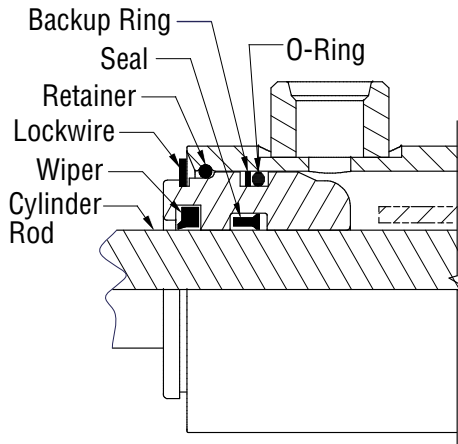

Figure 6-10, Gland Cap Seal
3. Install the seals and wipers in the gland cap. Note the direction of the seals. The cupped side or O-Ring side of the seal should be facing the piston. (Figure 6-10)